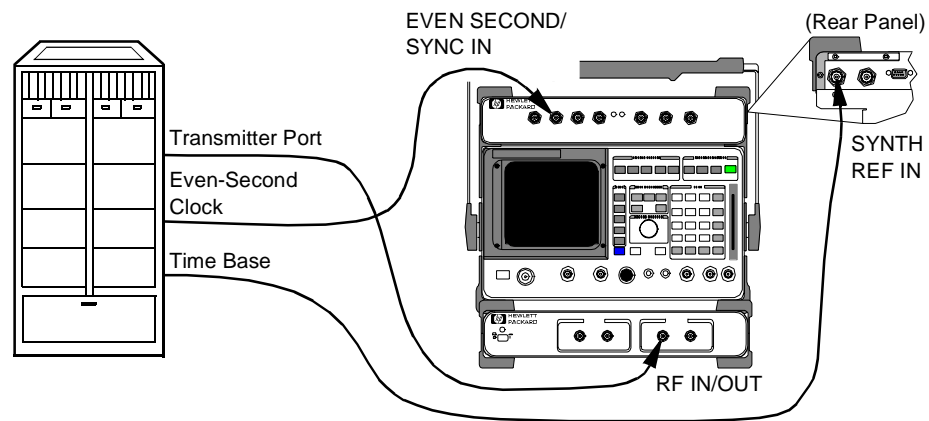

Figure 8
- 1 Connect the equipment as shown in figure 8.